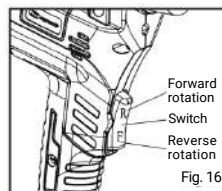

Fig. 16
- * The clamp can be set on the main unit only when the flare cone (on the main unit) is fully retracted. If the flare cone is sticking out, press the lower part of the switch to put it in the retracted position. When you hear a clank (from the clutch), implying that the flare cone is fully retracted, return the switch to its original position. (Fig.16)
- ② Start flaring by pressing and holding the upper part of the switch. Flaring will be completed within 3 seconds from when you hear a clank (from the clutch). Release the switch to stop the rotation. (Fig. 16)
- ③ Press and hold down the lower part of the switch. The flare cone will be retracted while rotating in reverse. When the flare cone is fully retracted, you will hear a clank, return the switch to its original position. (Fig. 16)